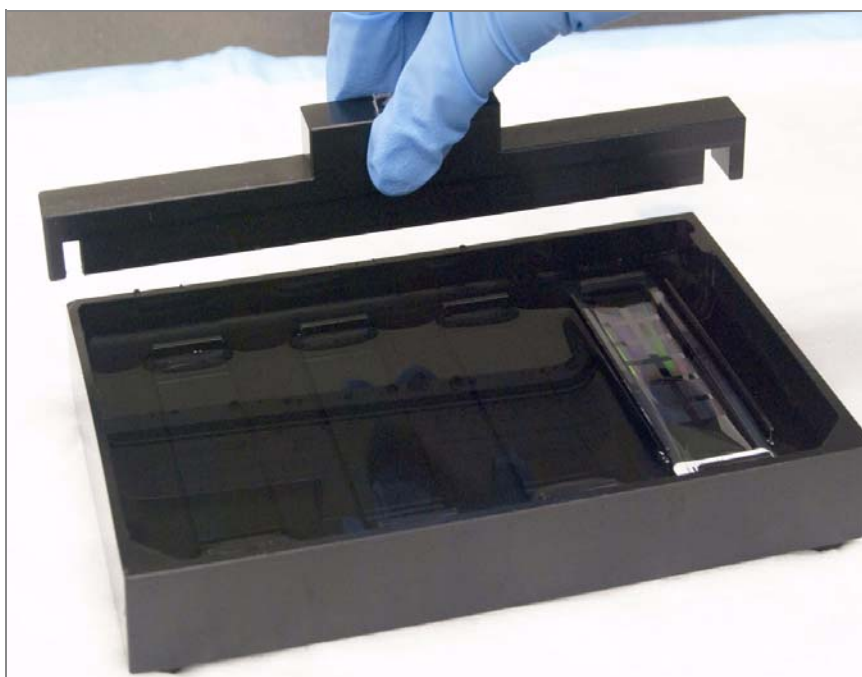

Figure 150 Placing Alignment Bar onto Alignment Fixture
5. Place the Alignment Bar onto the Alignment Fixture (Figure 150).